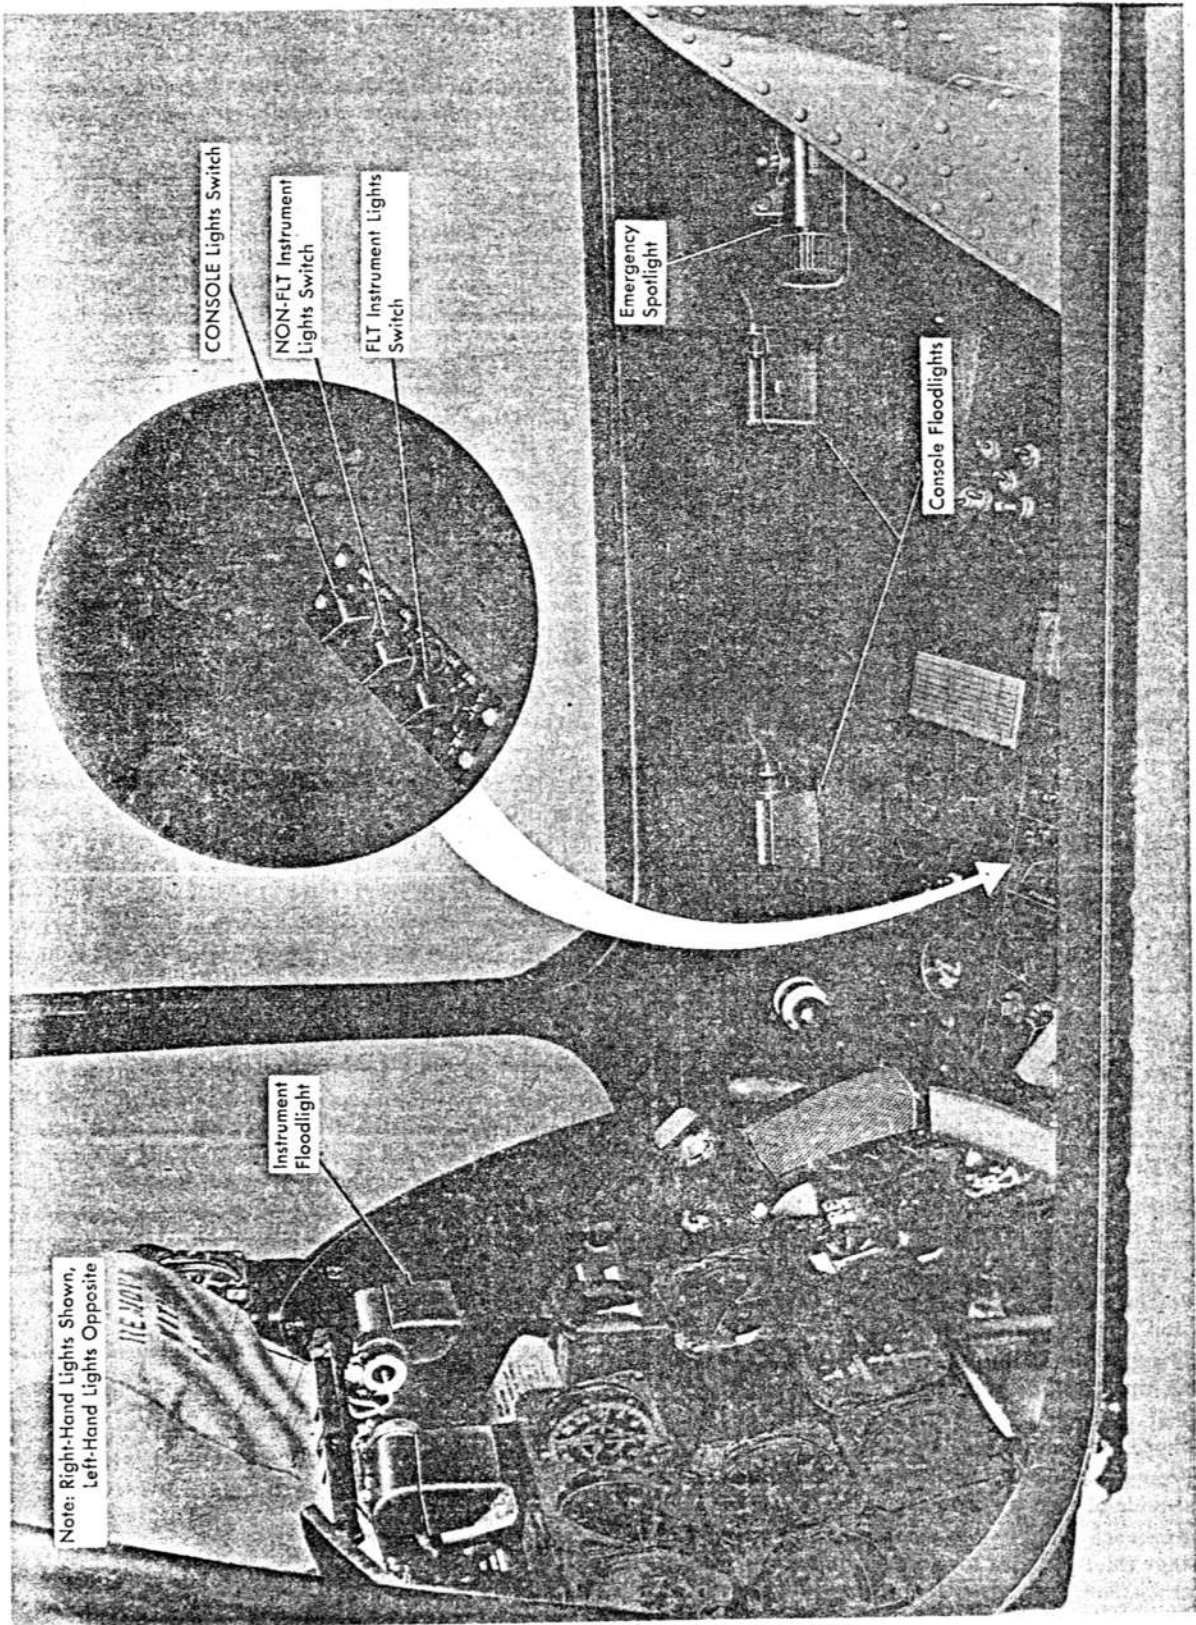

Figure 4-10. Interior Light Controls
**FUSEL, WING, TAIL, AND FORM LIGHT SWITCHES.** These four toggle switches (figure 4-10)
**FLIGHT INSTRUMENT LIGHTS SWITCH.** The FLT instrument lights switch (figure 4-10) turns on and controls the brightness of all flight instrument lights. The flight instruments are:
**NONFLIGHT INSTRUMENT LIGHTS SWITCH.** The NON-FLT instrument lights switch (figure 4-10)
**CONSOLE LIGHTS SWITCH.** The CONSOLE lights switch (figure 4-10) turns on and controls the brightness of the four red console floodlights (figure 4-10) and the cockpit panel edge lights. Turning on the CONSOLE switch connects power from the d-c instrument bus to the INT LTS panel lights but the lights are not dimmed by rotation of the switch.
**EMERGENCY SPOTLIGHTS.** Emergency spotlights (figure 4-10), located on each side of the cockpit, receive power from the primary bus and their circuit is protected by a circuit breaker on the right-hand console. The spotlights, which are removable for use as flashlights, are controlled by a built-in switch.
**EMERGENCY CONSOLE AND INSTRUMENT FLOODLIGHTS.** The emergency console and instrument floodlights (figure 4-10) are lighted when the main inverter fails. Electrical power for the circuit comes from the primary bus and the circuit is protected by a circuit breaker on the right-hand console.